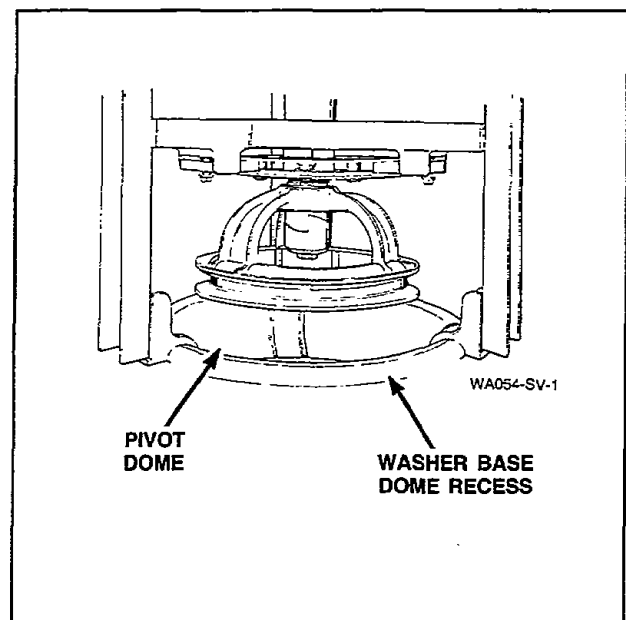

Figure 49
- Carefully place tub module back into washer making sure pivot dome is positioned properly in the dome recess of washer base, *Figure 49*.